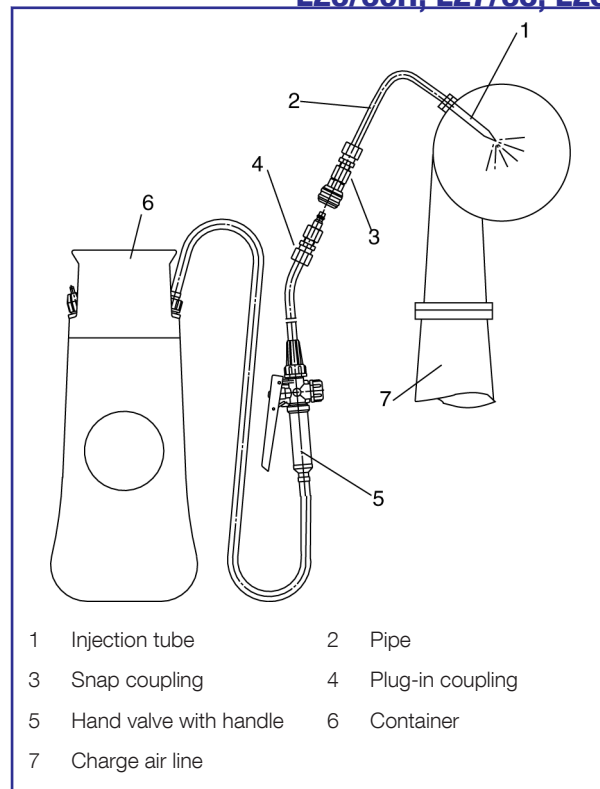

Figure 1: Water washing equipment.
The water washing equipment, see fig 1, comprises two major parts. The transportable container (6) including a hand valve with handle (5) and a plug-in coupling (4) at the end of a lance.